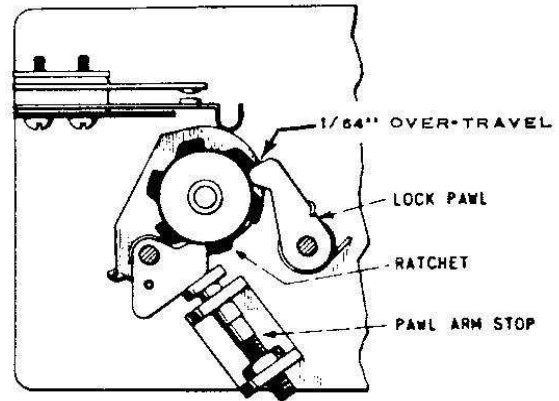

Figure 1.
1. The Pawl Arm Stop limits the rotation of the credit switch when the Cancel Solenoid plunger returns to normal rest position. It should be adjusted so the credit switch rotates far enough to allow the Lock Pawl to fall into the ratchet and have approximately $1/64''$ overtravel. The adjustment must be checked at all six positions of the credit wheel and the ratchet. After adjustment, set the locknut tight. See Figure 1.